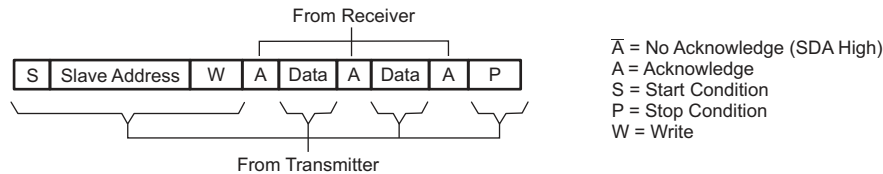
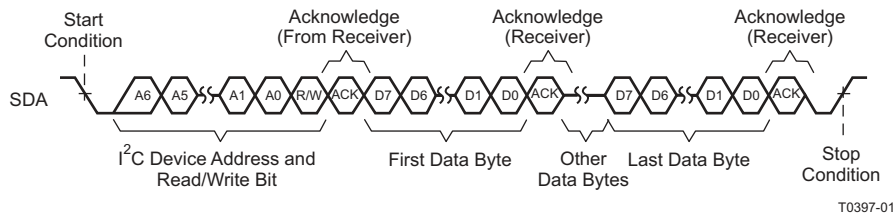
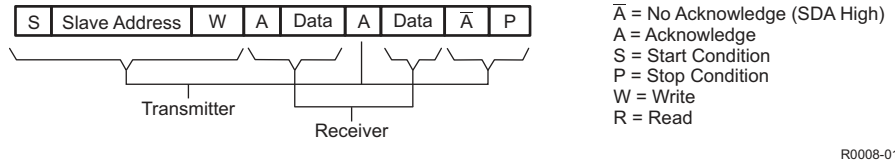
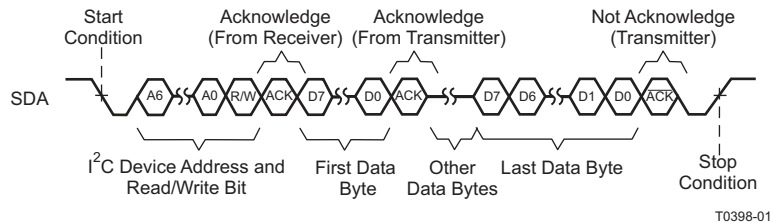

Figure 42. I2C Write Cycle
Figure 43. Multiple-Byte Write Transfer
Figure 44. I²C Read Cycle
Figure 45. Multiple-Byte Read Transfer
- The master generates further SCL cycles to either *transmit* data to the slave (R/W bit 0) or *receive* data from the slave (R/W bit 1). In either case, the *receiver* must acknowledge the data sent by the *transmitter*. So an acknowledge signal can be generated either by the master or by the slave, depending on which one is the receiver. The 9-bit valid data sequences consisting of 8-bit data and 1-bit acknowledge can continue as long as necessary (See Figure 42 through Figure 45).
During a write cycle, the transmitting device must not drive the SDA signal line during the acknowledge cycle so that the receiving device may drive the SDA signal low. After each byte transfer following the address byte, the receiving device pulls the SDA line low for one SCL clock cycle. A stop condition is initiated by the transmitting device after the last byte is transferred. An example of a write cycle can be found in Figure 42 and Figure 43. Note that the TMDS461 allows multiple write transfers to occur. See the Example – Writing to the TMDS461 section for more information.
During a read cycle, the slave receiver acknowledges the initial address byte if it decodes the address as its address. Following this initial acknowledge by the slave, the master device becomes a receiver and acknowledges data bytes sent by the slave. When the master has received all of the requested data bytes from the slave, the not-acknowledge ( $\bar{A}$ ) condition is initiated by the master by keeping the SDA signal high just before it asserts the stop (P) condition. This sequence terminates a read cycle as shown in Figure 44 and Figure 45. See the Example – Reading from the TMDS461 section for more information.